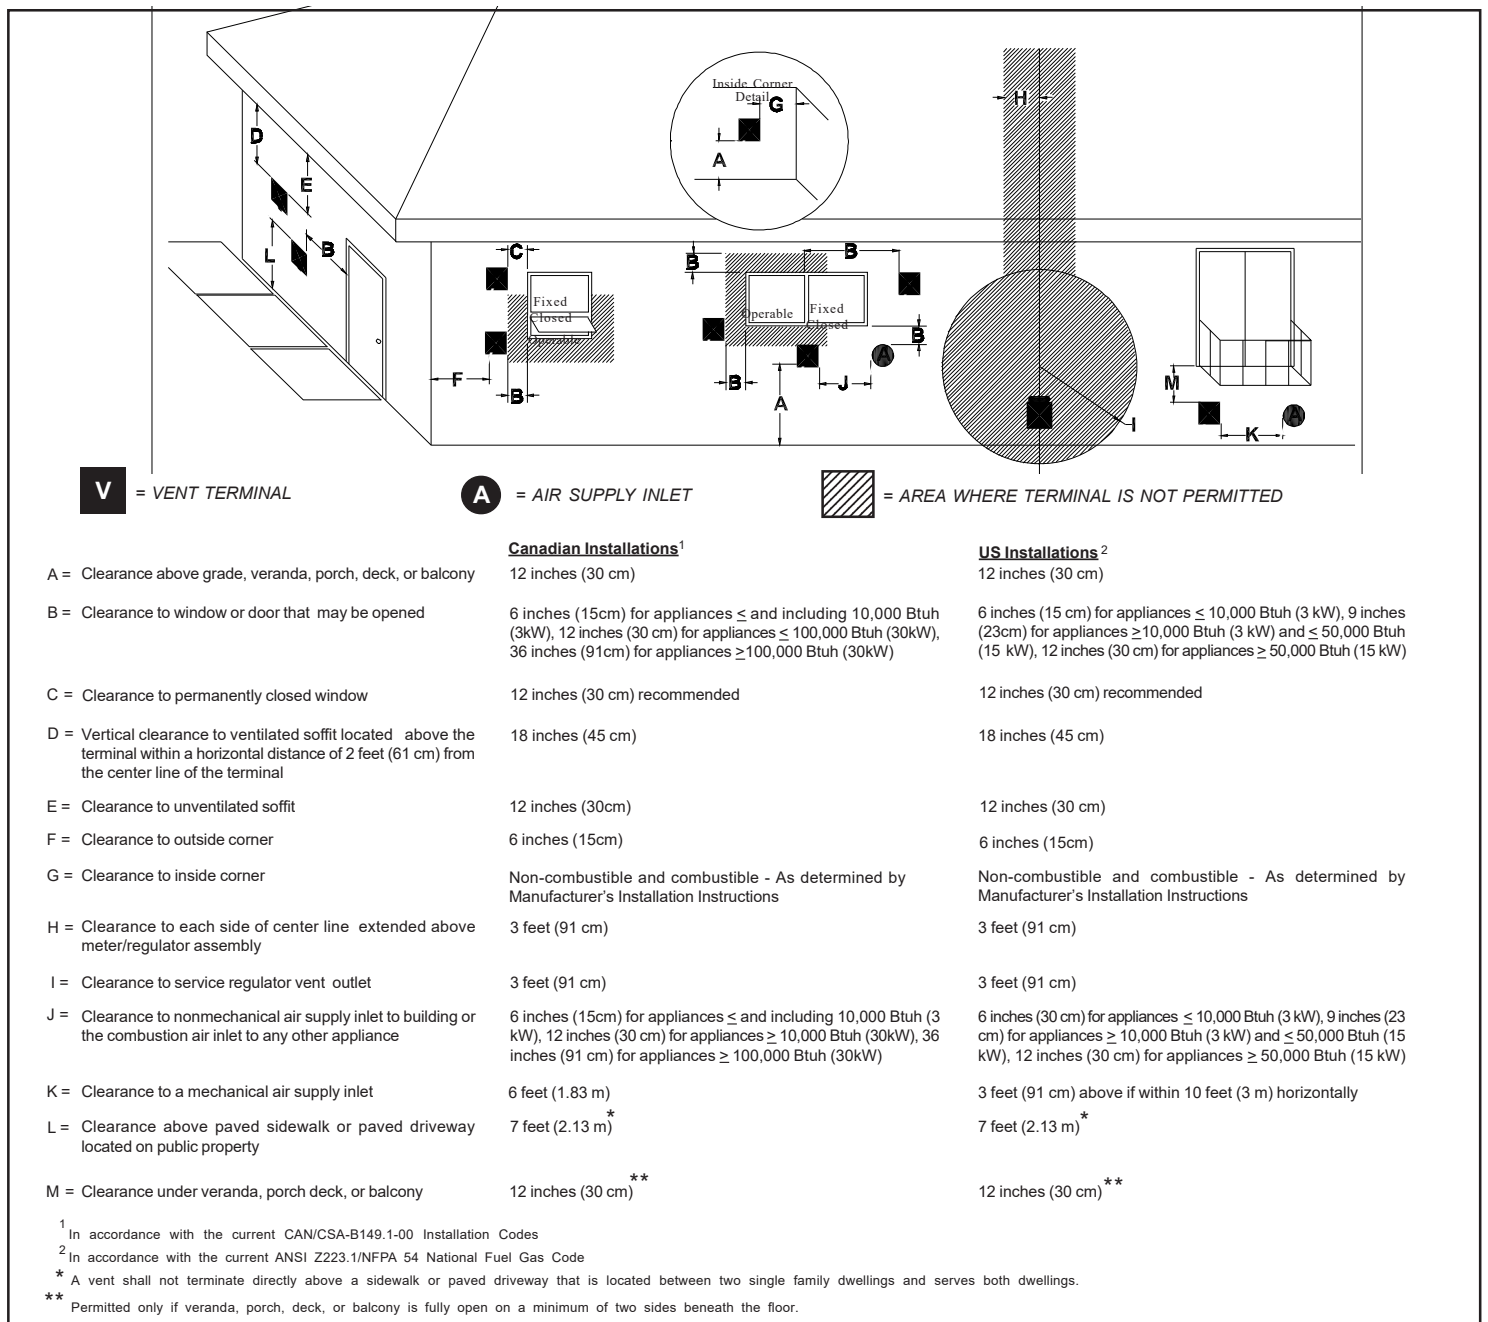

Figure 8. Side Wall Vent Termination Requirements
1) Determine the appliance location. Refer to the Appliance Manufacturer's installation instructions for clearance to combustible requirements, termination options, number of elbows, maximum length, etc. then position the appliance and plan vent routing accordingly. Consider locating the appliance in a place where there will be no interference with wall studs, electrical wiring, conduit, plumbing pipe, or other obstructions. The termination should be located at least 12" above grade, remain above the snow line in geographical areas that accumulate snow and be away from traffic areas such as walkways if it is less than 7' high (See Figure 8 for more detail).